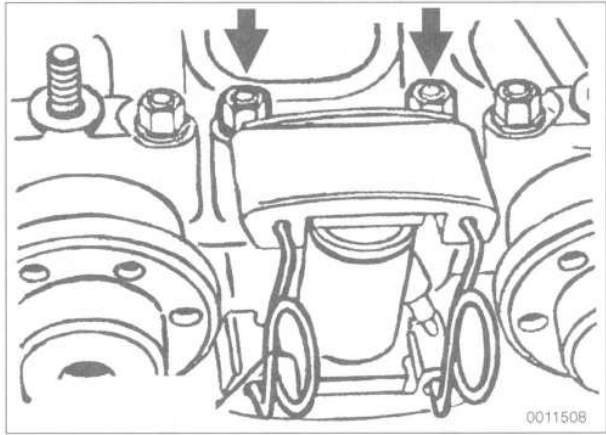

Fig. 29. Camshaft chain tensioner locked in position with BMW special tool no. 11 3 420. Tensioner mounting nuts shown at **arrows**.
3. Depress chain tensioner and lock in position using BMW special tool no. 11 3 420, or appropriate stiff wire. See Fig. 29.